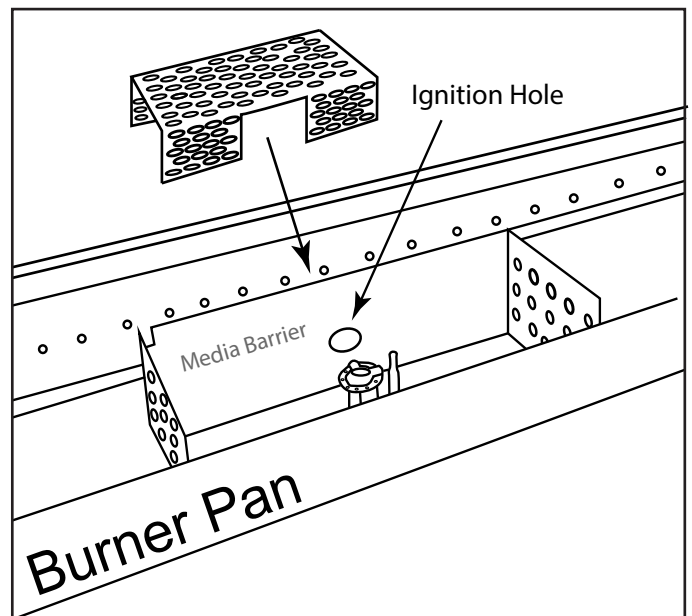

Fig. 25 Installing ignition screen.
Step 6: Install ignition screen (from parts box) overtop of the burner tube with the cutout area centered behind the pilot box ignition hole as shown in Fig. 25. The ignition screen sit on top of the burner tube.